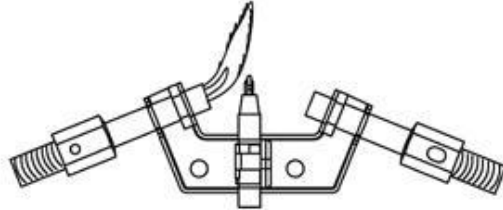

Figure 16 -Incorrect Pilot Flame Pattern
- Figure 16 shows an incorrect pilot flame pattern. The incorrect pilot flame is not touching the thermocouple. This will cause the thermocouple to cool. When the thermocouple cools, the heater will shut down.
- If the pilot flame is incorrect, as shown in Figure 16. Turn heater off (see To Turn off Gas to Appliance, page 18) See troubleshooting, page 21-23.